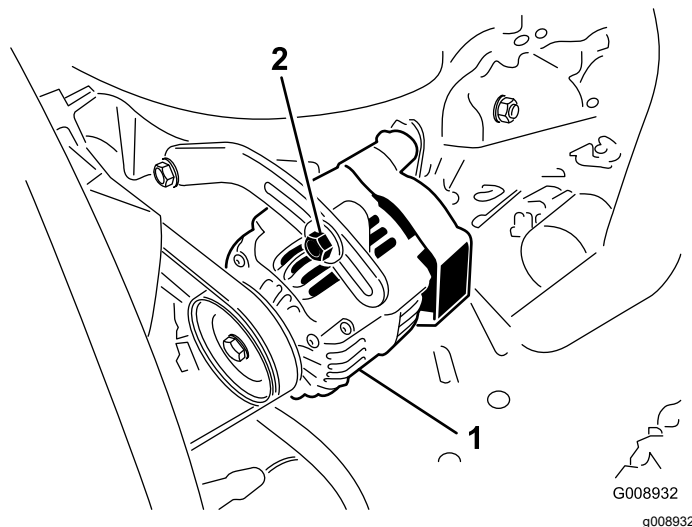

Figure 96
Check the condition and tension of the belts (Figure 96) after every 100 operating hours.
2. If the deflection is not 10 mm (3/8 inch), loosen the alternator mounting bolts (Figure 96). Increase or decrease the alternator belt tension and tighten the bolts. Check the deflection of the belt again to ensure that the tension is correct.